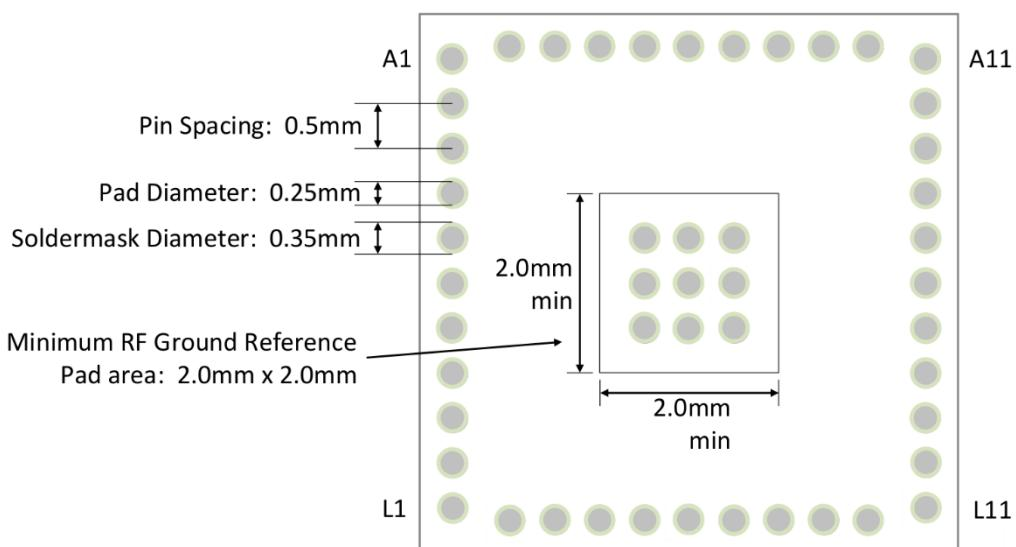

Figure 16. Recommended PCB Pad Pattern
- PCB pad pattern diagram is shown in Figure 16.